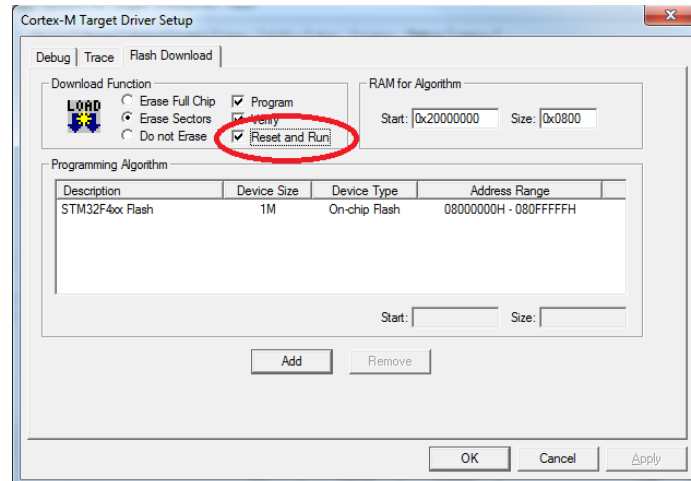

Figure 8d Flash Download Settings Window
- Under the **Flash Download** Tab ensure that the **Reset and Run** box is ticked (shown in Fig 8d circled in Red).